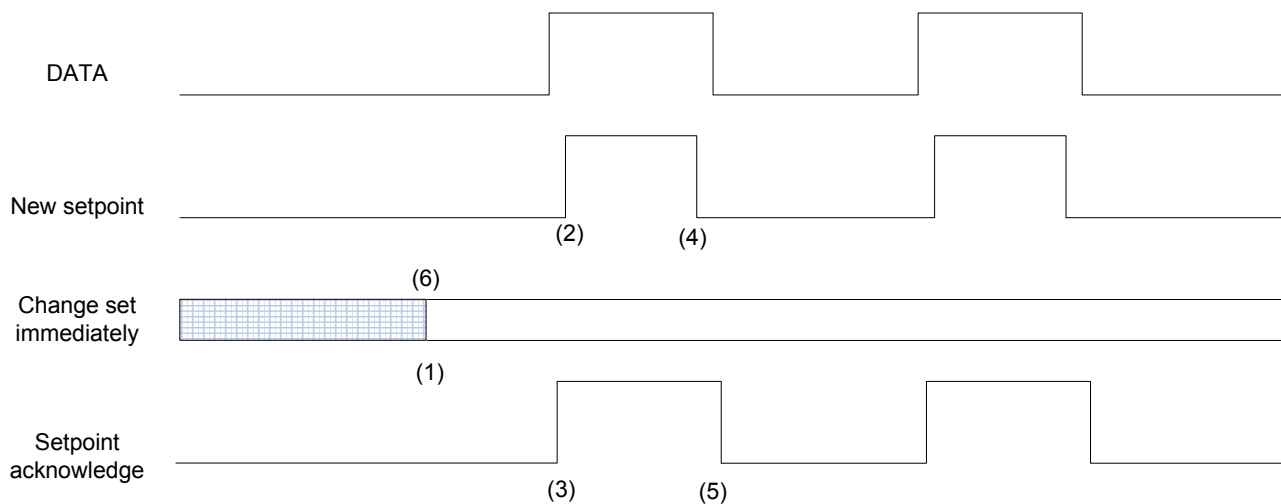
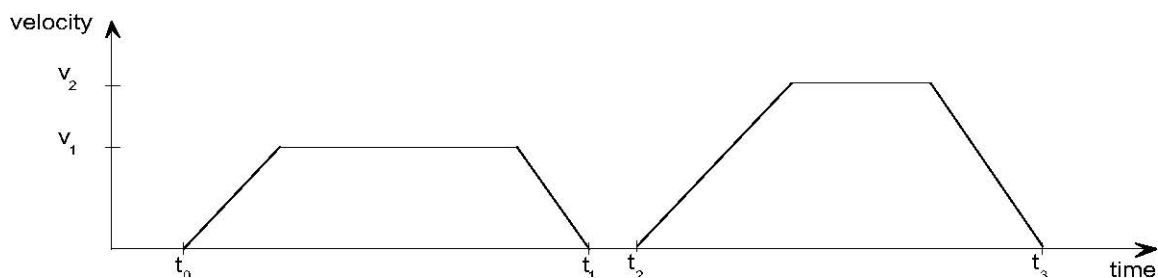
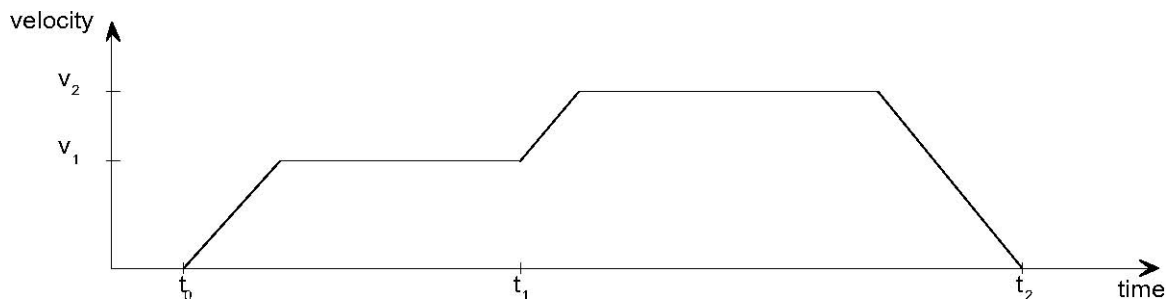

Figure 17: Set-point transmission from a host computer
Figure 18: Single set-point
Figure 19: Change set immediately
Figure 17, Figure 18 and Figure 19 show the difference between the "set of set-points" mode and the "single set-point" mode. The initial status of the bit '*change set immediately*' in the *controlword* determines which mode is used. To keep simple these examples, only trapezoidal moves are used.
If the bit ‘*change set immediately*’ is "0" (continuously drawn line in Figure 17) a single set-point is expected by the drive (1). After data is applied to the drive, a host signals that the data is valid by changing the bit ‘*new set-point*’ to "1" in the *controlword* (2). The drive responds with ‘*set-point acknowledge*’ set to "1" in the *statusword* (3) after it recognized and buffered the new valid data. Now the host may release ‘*new set-point*’ (4) and afterwards the drive signals with ‘*set-point acknowledge*’ equal "0" its ability to accept new data again (5). In Figure 18 this mechanism results in a velocity of zero after ramping down in order to reach a *target position* $x1$ at $t1$. After signaling to the host, that the set-point is reached like described above, the next *target position* $x2$ is processed at $t2$ and reached at $t3$.
If the bit 'change set immediately' is "1" (dashed line in Figure 17) the new target position will be active immediately. In Figure 19 the drive receives the first *target position* at t_0 . At the time point t_1 the drive receives a second *target position*. The drive readapts the actual move to the new target position immediately.